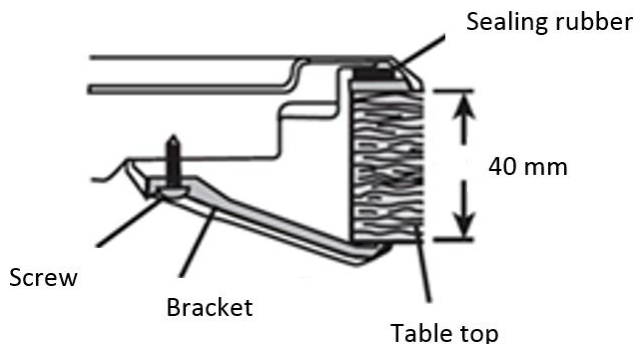

Fig. 5
5) Using the mounting kit, secure the hob to the countertop. To do this, the set includes 4 mounting brackets and 4 screws. Refer to Figure 5: